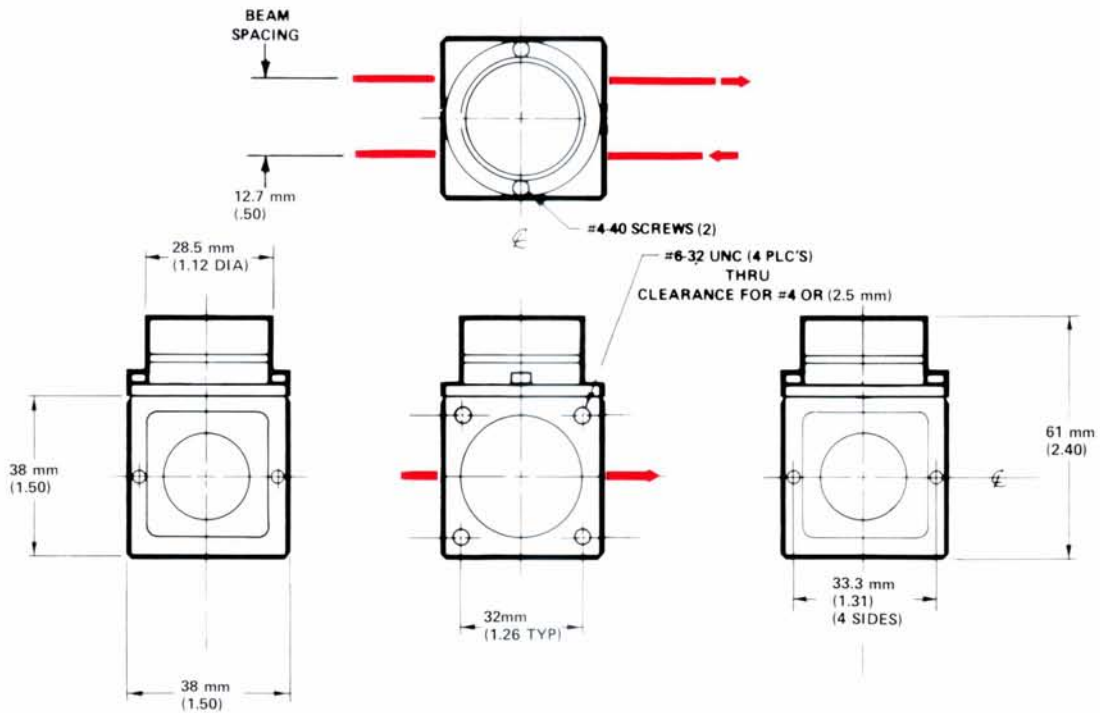

Figure 2-19. 10702A Linear Interferometer Specifications
- b. 10702A Linear Interferometer Specifications, see *Figure 2-19*.